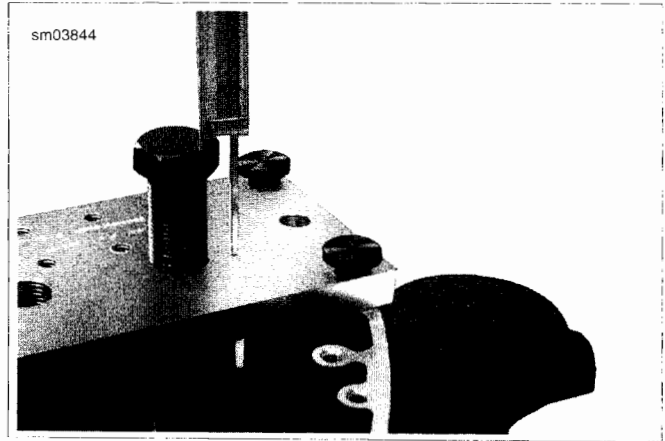

Figure 3-138. Measure from Top of Forcing Screw to Support Plate
10. See Figure 3-138. Using a dial caliper, measure from head (top) of installer forcing screw to support plate. Record this measurement.